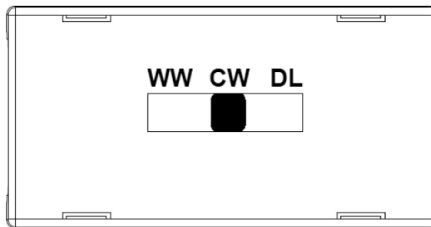

Fig. 2
- Choose the required colour temperature by means of the three-position switch (see Fig. 2)